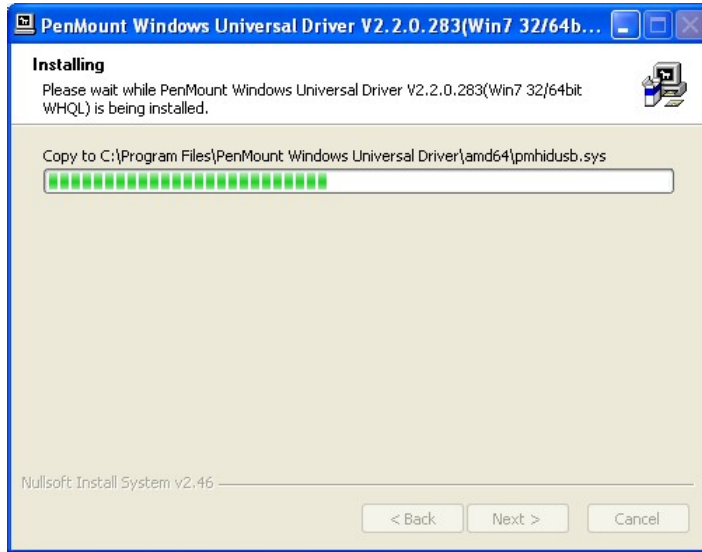

Figure 5-4: Installation Starts
Step 10: The installation of the program begins. See Figure 5-4.